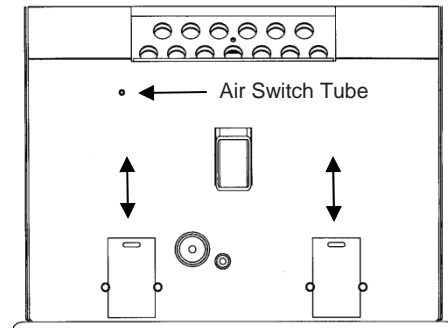

FIGURE 18
- b. **Interior Chambers** – The two ash doors in the firebox in the Breckwell Big E can be removed for periodic cleaning (refer to figure 18). These doors allow access to the chamber behind the firebox.